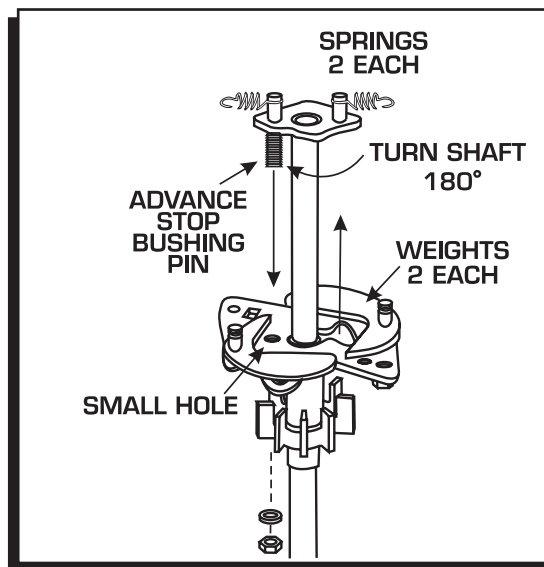

Figure 16 Locking Out the Advance.
- d. Rotate the shaft 180° and insert the advance stop bushing pin into the small hole on the advance plate (Figure 16).
- a. Remove the two Allen head screws that hold the advance canister (Figure 16).
- f. It is important to make sure the pickup plate is parallel with the housing of the distributor (Figure 16). If it is cocked or slanted, the paddles of the reluctor may contact the pickup.